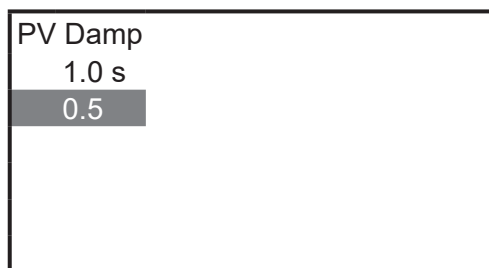

Figure 13 Damping constant input
2. Once the display (Figure 13) appears, enter a range value using the numeric keys. The range value that can be entered must be from 0.5s to 1.99s in increments of 0.1. Any other value is unacceptable and will result in an error message being displayed.